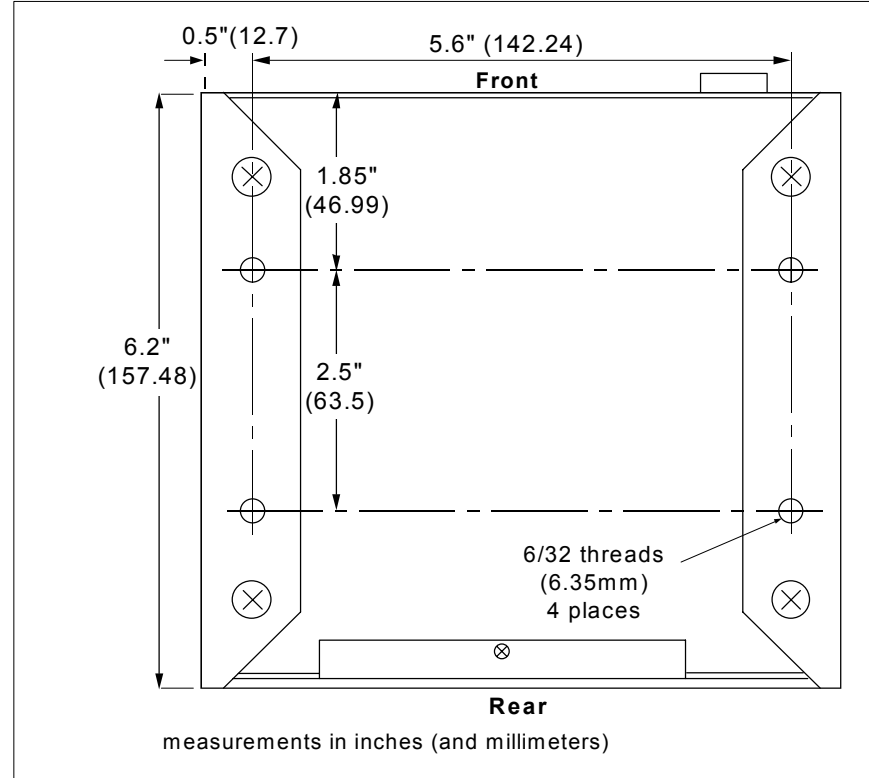

Figure 1-11 MS-5000 Bottom Mounting Diagram (not full size)
- Use the measurements provided in figure 1-11 to locate centers of mounting holes and drill four 5/32 inch (4 mm) holes.